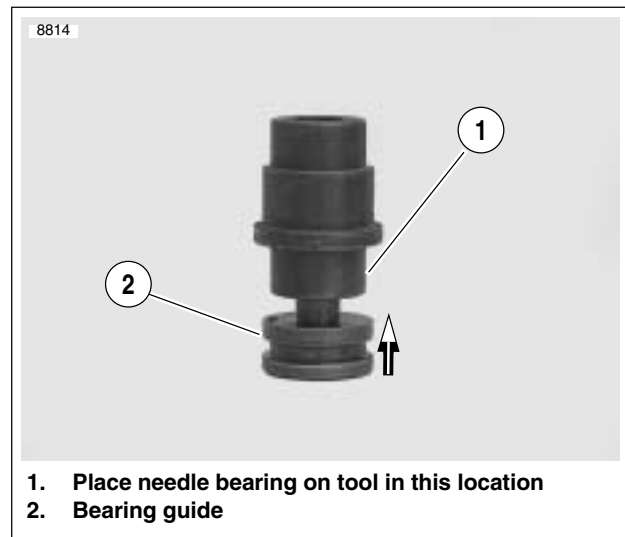

Figure 6-28. Bearing Installer
3. See Figure 6-28. Remove bearing guide from end of CLUTCH SHELL BEARING REMOVER/INSTALLER (Part No. B-45926).